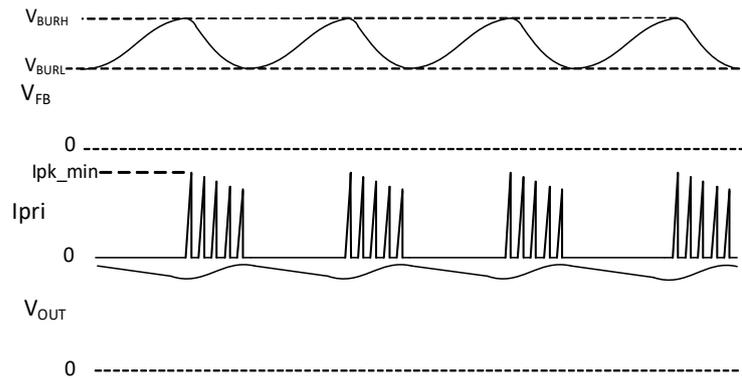

Figure 23. Burst Mode Operation at Light Load
- Burst Mode – At light load, the regulator transitions into the burst mode operation to save IC power consumption. While the load decreases, the FB voltage reduces. When the load drops below V_{BURL} , the part enters burst mode operation, and the IC stops switching. When FB voltage rises back to V_{BURH} , the IC resumes switching until FB voltage falls back to V_{BURL} . In Burst mode, the peak current is typically not more than V_{CS_MIN}/R_S excluding the overshoot, and the burst frequency is below 3kHz, which effectively minimizes the audible noises. See the Burst mode operation in Figure 23.